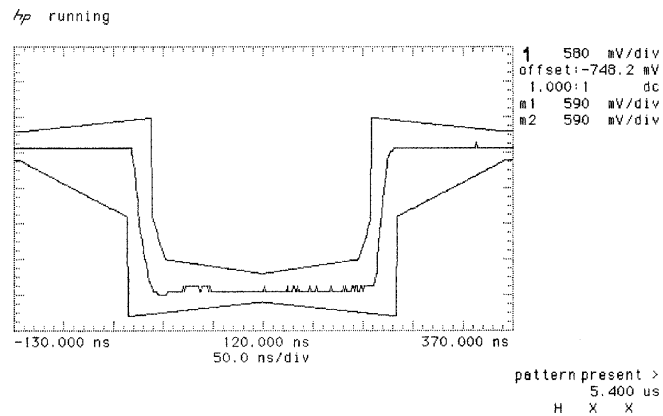

Figure 3-27
19. Adjust the oscilloscope timebase and vertical sensitivity controls to verify that the pulse meets the mask as shown in Figure 3-27. Use the displayed settings as a guide.